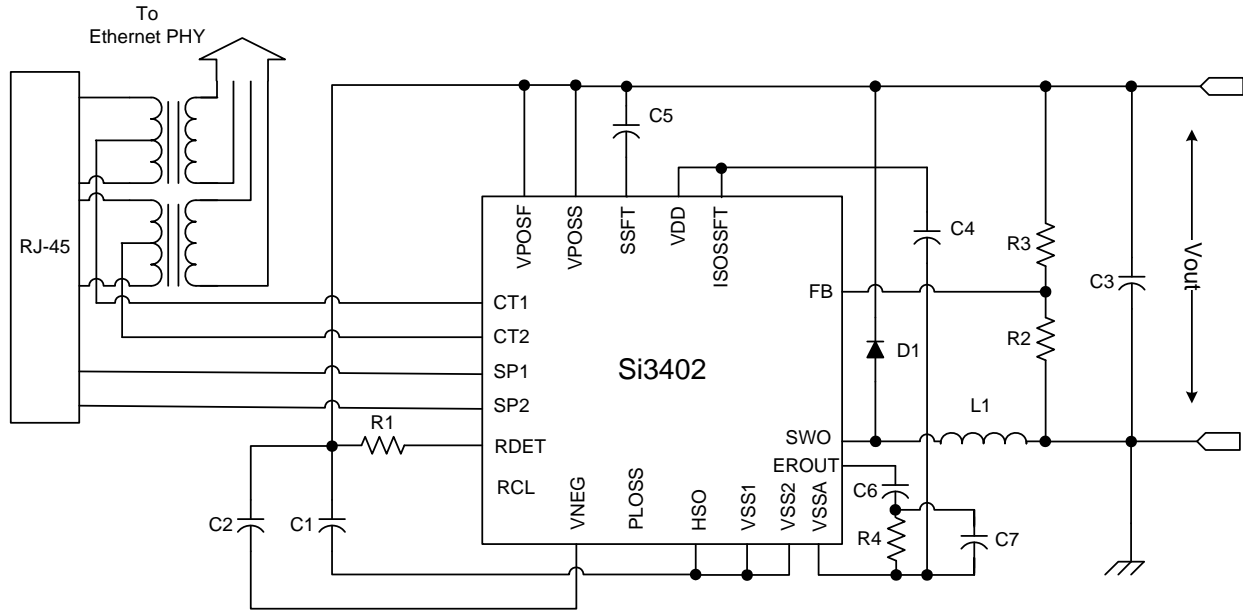
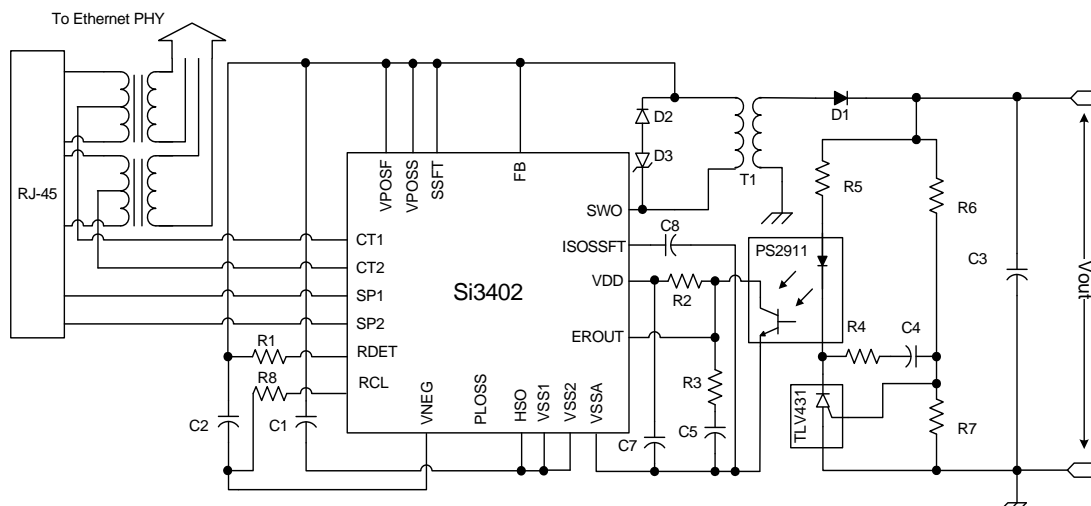

Figure 1. Schematic—Class 0 with Non-Isolated 5 V Output*
Figure 2. Schematic—Class 1 with Isolated 5.0 V Output*
6. Applies to non-isolated applications only (VOUT on schematic in Figure 1).
<ol style="list-style-type: none"> Transient surge defined in IEC60060 as a 1000 V impulse of either polarity applied to CT1–CT2 or SP1–SP2. The shape of the impulse shall have a 300 ns full rise time and a 50 μs half fall time with 201 Ω source impedance. The classification currents are guaranteed only when recommended RCLASS resistors are used, as specified in Table 10. I_{PORT} includes full operating current of switching regulator controller. The PD interface includes dual-level input current limit. At turn-on, before the HSO load capacitor is charged, the current limit is set at the inrush level. After the capacitor has been charged within ~1.25 V of VNEG, the operating current limit is engaged. This higher current limit remains active until the UVLO lower limit has been tripped or until the hotswap switch is sufficiently current-limited to cause a foldback of the HSO voltage. See “AN296: Using the Si3400/1/2 PoE PD Controller in Isolated and Non-Isolated Designs” for more information. Applies to non-isolated applications only (VOUT on schematic in Figure 1).
The application determines the converter topology. An isolated application will require a flyback transformer-based switching topology while a non-isolated application can use an inductor-based buck converter topology. In the isolated case, dc isolation is achieved through a transformer in the forward path and a voltage reference plus opto-isolator in the feedback path. The application circuit shown in Figure 2 is an example of such a topology. The non-isolated application in Figure 1 makes use of a single inductor as the energy conversion element, and the feedback signal is directly supplied into the internal error amplifier. As can be seen from the application circuits, the isolated topology has an increased number of components, thus increasing the bill of materials (BOM) and system footprint.